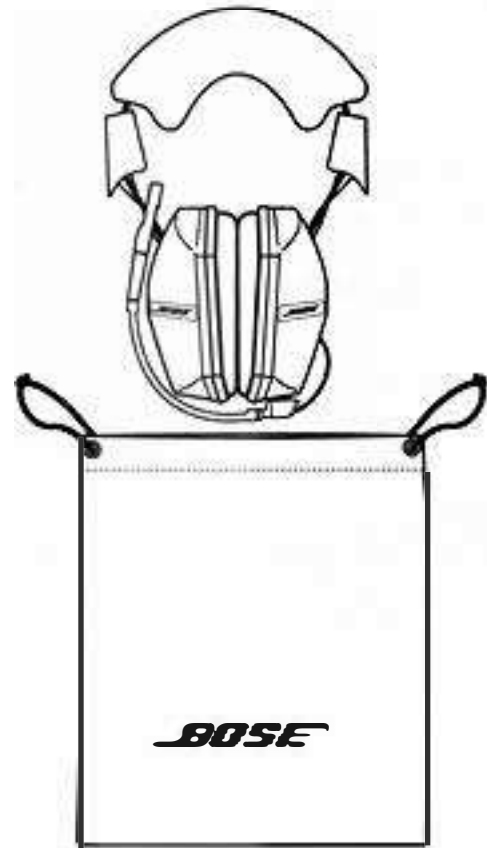

Figure 4
1. Bend and rotate the boom in the clip so that the boom extends below and then up the side of the opposite earcup (see Figure 4).